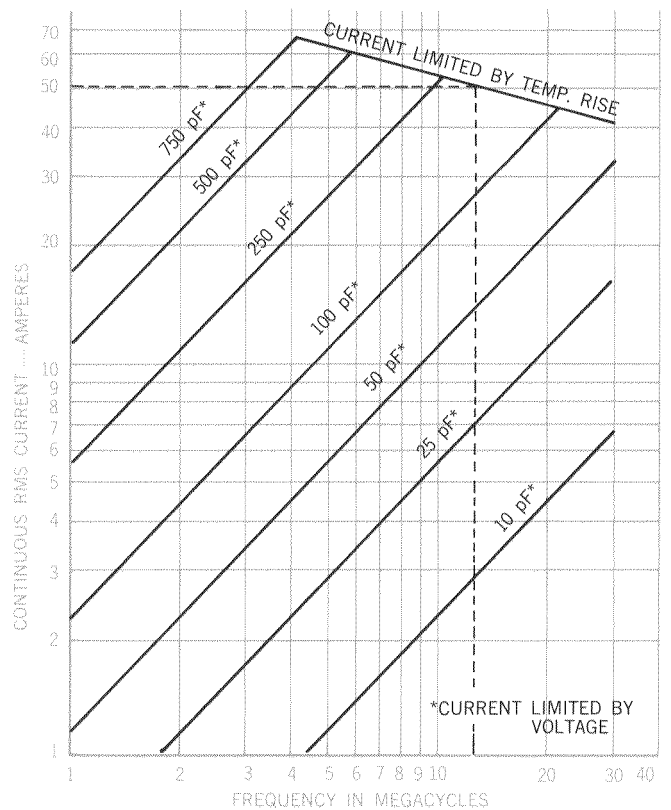

Figure 4 — Frequency vs Continuous RMS Current for Various Capacitances for ML-VCV 1.
The above equation is also illustrated in Figure 4. The published current rating applies at 13.6 MHz and is the current that will raise the capacitor temperature to 100°C. At frequencies below this value the capacitor will handle greater currents without temperature increase since the rf resistance is lower. At higher frequencies the maximum operating temperature is reached at a lower current than the published value. This again is due to a higher rf resistance.
From equation (1) it can now be shown that the dissipated energy in the capacitor is constant along the line designated "current limited by temperature rise" in Figure 4.